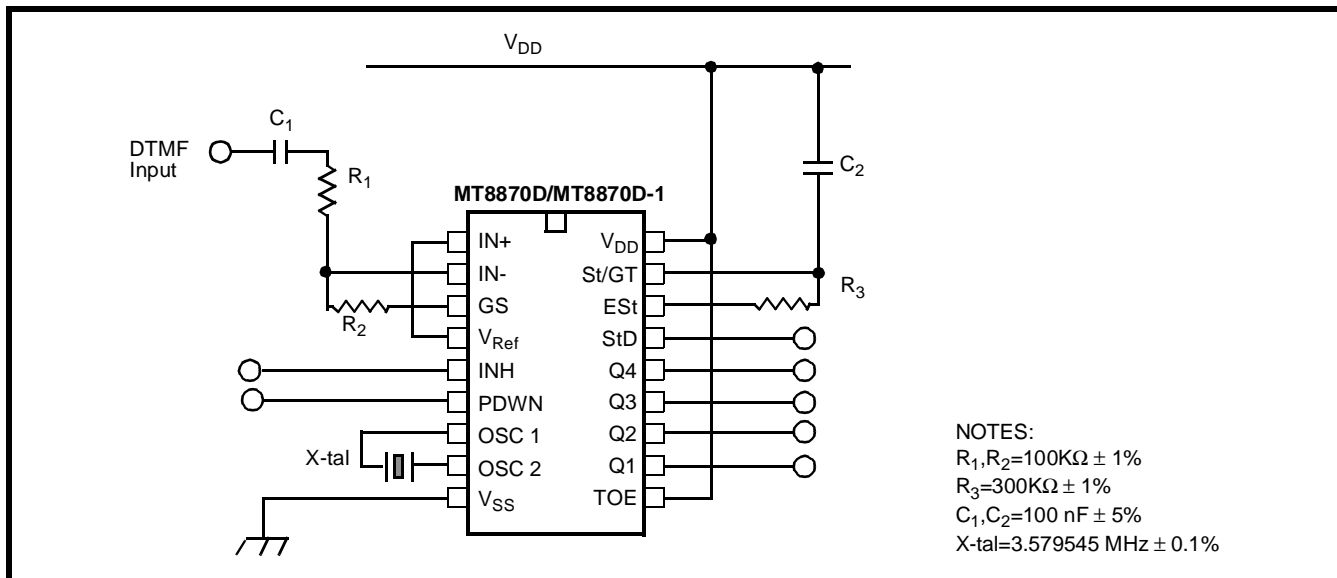

Figure 10 - Single-Ended Input Configuration
MT8870D AC Electrical Characteristics - $V_{DD}=5.0V \pm 5\%$, $V_{SS}=0V$, $-40^{\circ}C \leq T_O \leq +85^{\circ}C$, using Test Circuit shown in Figure 10.
MT8870D-1 AC Electrical Characteristics - $V_{DD}=5.0V\pm 5\%$, $V_{SS}=0V$, $-40^{\circ}C \leq T_O \leq +85^{\circ}C$, using Test Circuit shown in Figure 10.
12. Referenced to Fig. 10 input DTMF tone level at -25dBm (-28dBm at GS Pin) interference frequency range between 480-3400Hz.
AC Electrical Characteristics - $V_{DD}=5.0V\pm 5\%$, $V_{SS}=0V$, $-40^{\circ}C \leq T_o \leq +85^{\circ}C$, using Test Circuit shown in Figure 10.